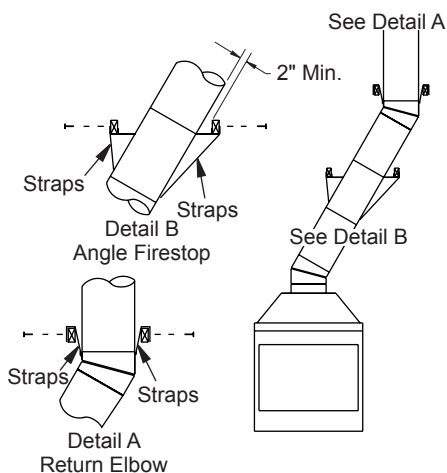

Figure 11 - Ceiling Support Pipe
2. Chimney weight above offset rests on return elbow. Straps must be securely nailed to rafters or joists (see Figure 11, details A and B).